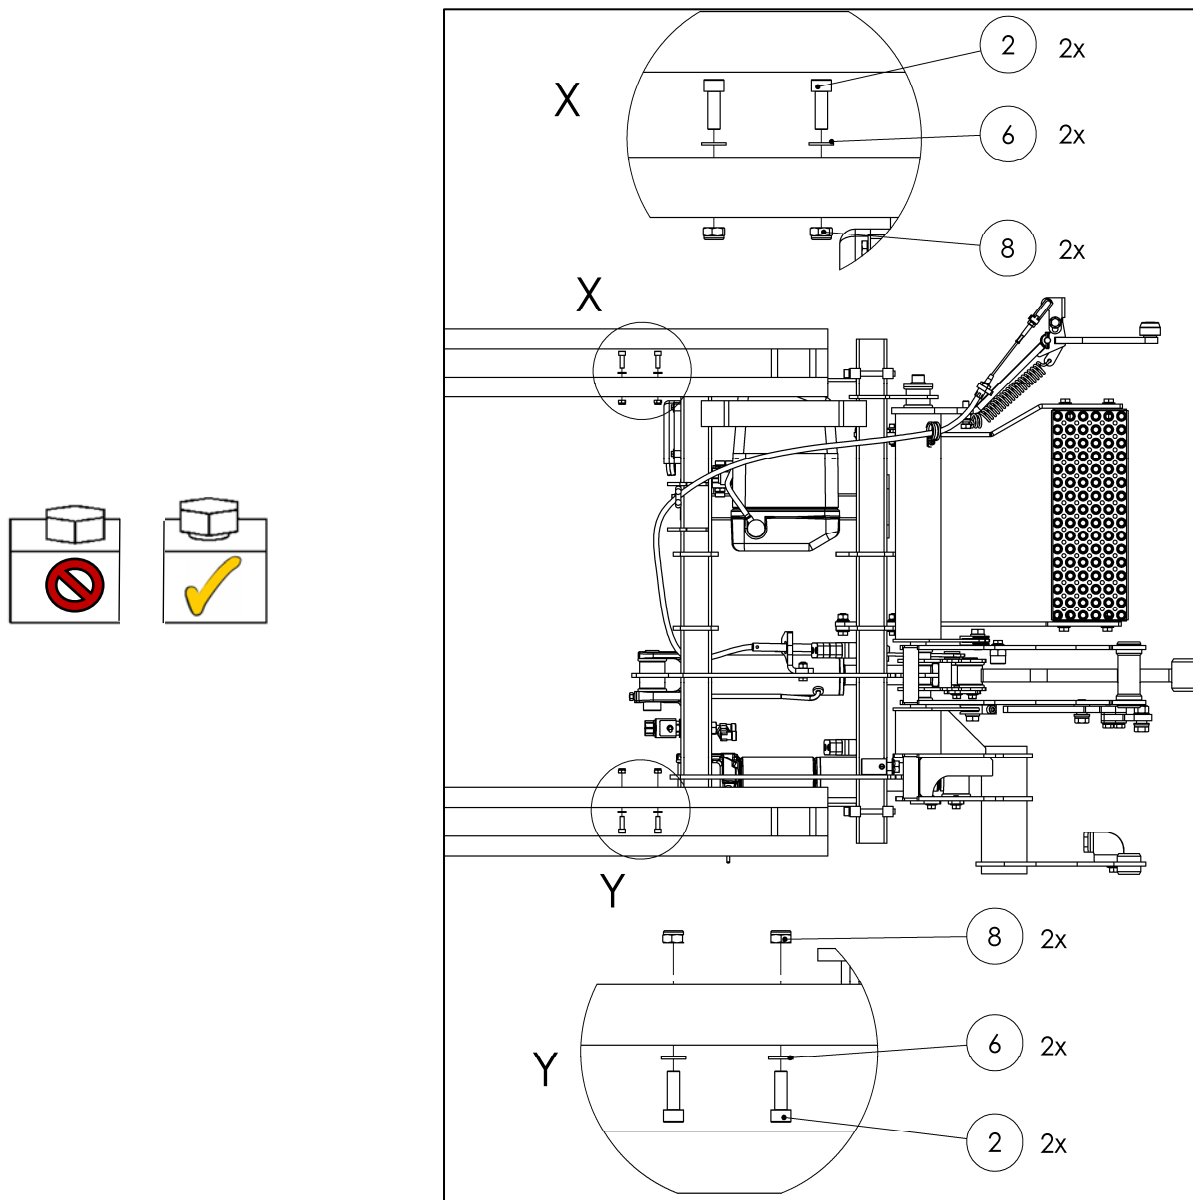

Fig. 29
- Insert the front bolts (**installation adapter kit – Part No. 22 911 217 or 22 911 235**) as viewed in the forward direction of travel and tighten until hand-tight as shown in Fig. 29.